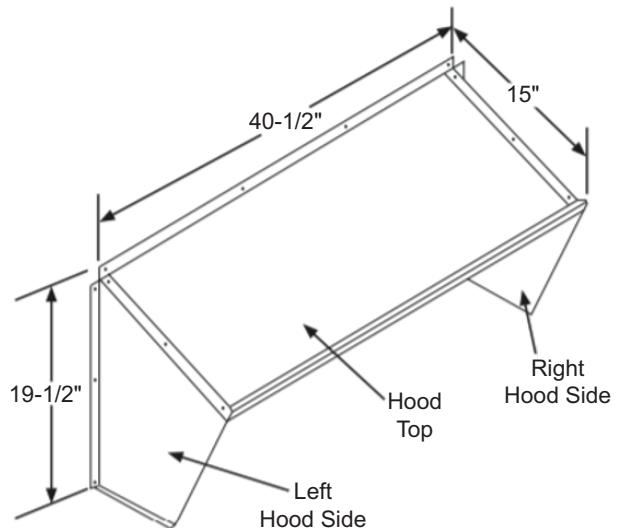

Fig. 36 – CRBARTHOD001A00 Hood Sides and Top
5. Using the provided hardware, screw the CRBARTHOD001A00 hood sides and top together (see Fig. 36).